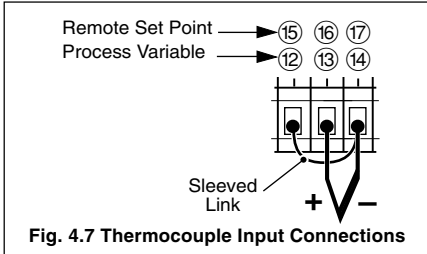

Fig. 4.7 Thermocouple Input Connections
4.6.1 Thermocouple (THC) Inputs – Fig. 4.7